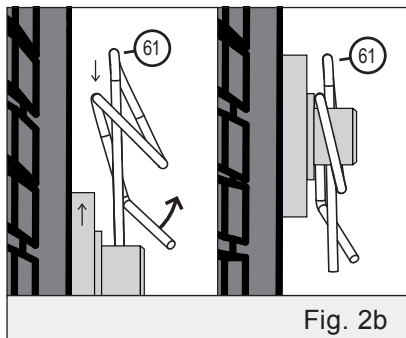

Fig. 2b
2. Add 1 washer (62) to the wheel axle (31), then slide on the tire (63) and an additional washer (62).
Secure in place with the Rue Ring Locking Pin (61). (See figures 2b and 3c below).